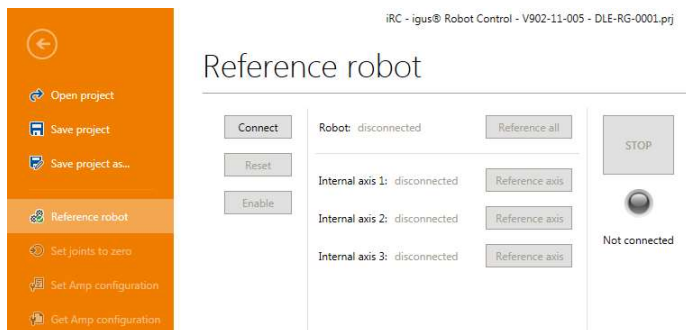

Figure 7.4: Referencing window.
5. Click the buttons to start referencing the axes, see Figure 7.4. Several joints can perform the referencing in parallel.